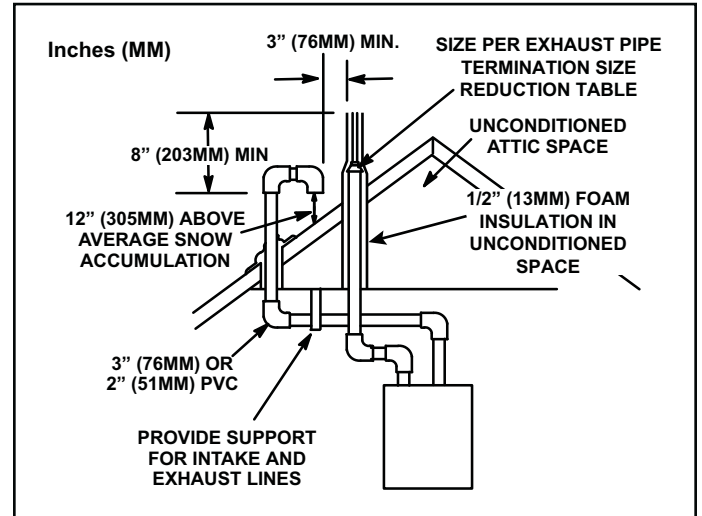

Figure 24. Direct Vent Roof Termination
Intake and exhaust pipes may be routed either horizontally through an outside wall or vertically through the roof. In attic or closet installations, vertical termination through the roof is preferred. Figure 24 through Figure 31 show typical terminations.
3. On roof terminations, the intake piping should terminate straight down using two 90° elbows (Figure 24).